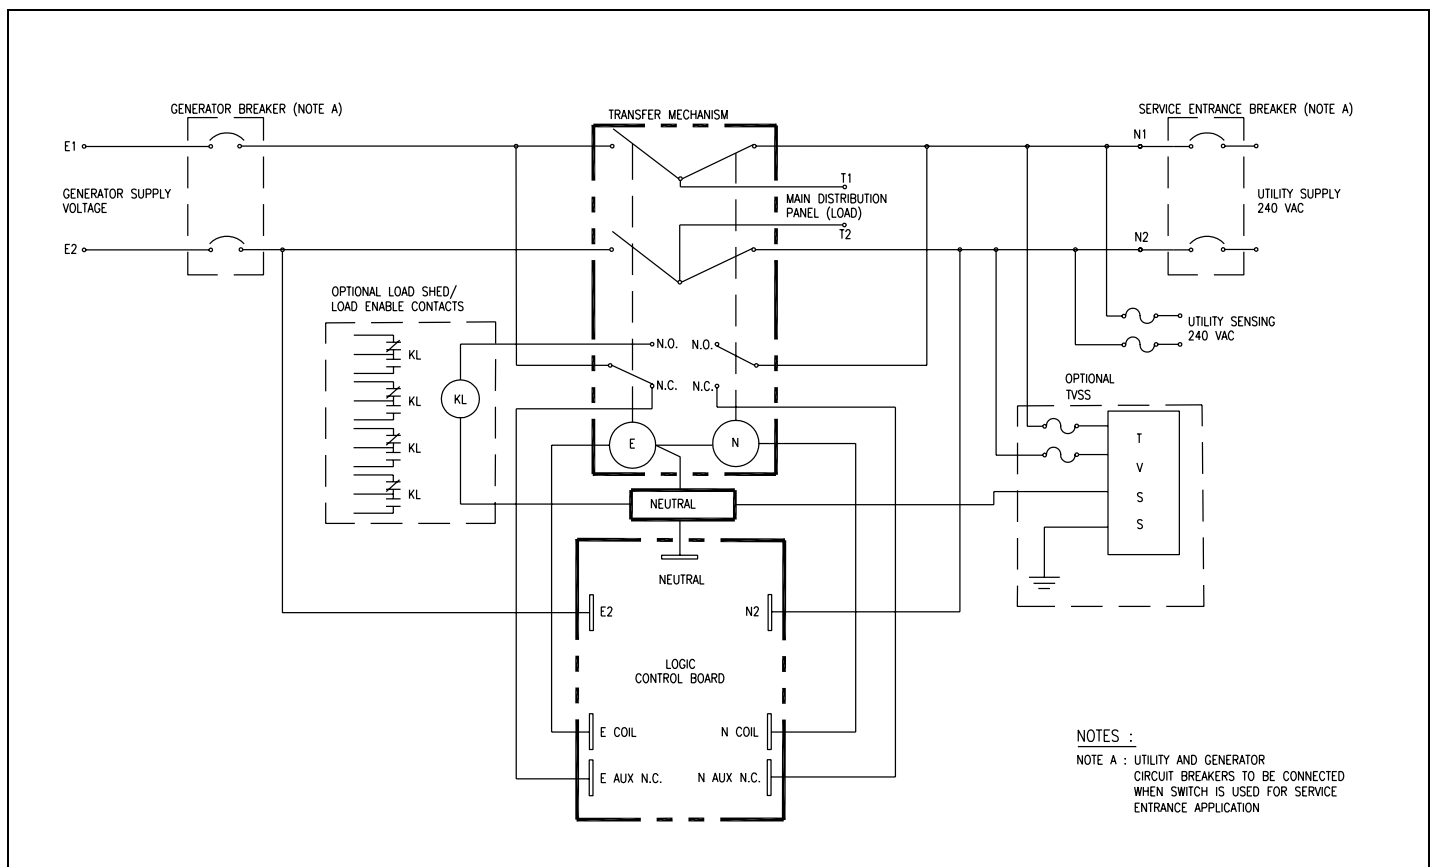
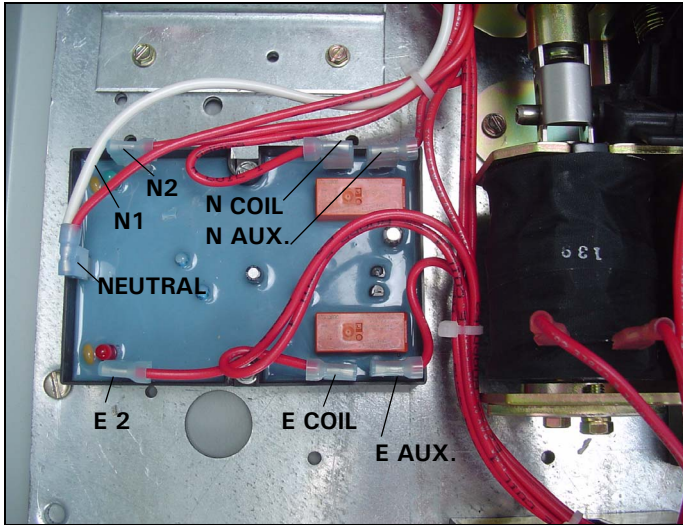

Figure 20. Wiring Diagram for the CHGEN ATS.
Figure 25. Wires to Disconnect from the Generator Controller Board.
Connect the sensing wires to the fuse block. These wires should be connected to the side of the fuse block with no existing wires. See Section 6 (Figure 20) for the wiring diagram.
Figure 20 is the wiring diagram for the CHGEN ATS switch.
Step 3: Disconnect the Neutral, N1, 1, N Coil, N Aux. N.C., E Aux. N.C., E Coil, and E2 female flag connectors from the generator controller board (Refer to the wiring diagram in Figure 20 for connection locations on the generator controller board) (see Figure 25).
Step 6: Connect the Neutral, N1, N2, N Coil, N Aux. N.C., E Aux. N.C., E Coil, and E2 female flag connectors to the new generator controller board (Refer to the wiring diagram in Figure 20 for connection locations on the generator controller board) (see Figure 25).